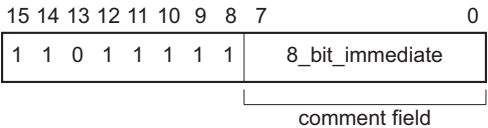

Figure 5-5 Thumb SWI instruction
- the instruction itself is 16-bit, and so requires a halfword load (see Figure 5-5)